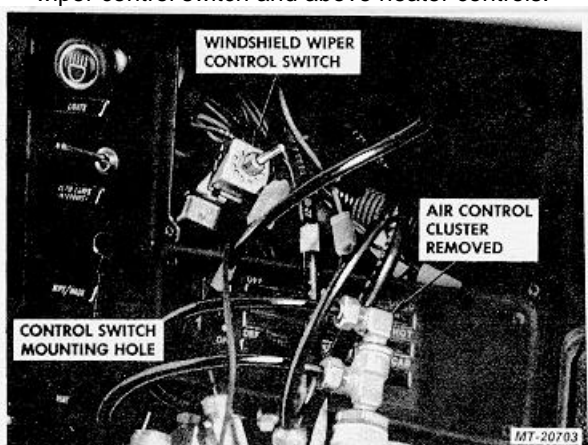

Fig. 7 Removing Wiper Switch from Instrument Panel
3. Remove mounting nut from switch shaft and demount switch assembly from instrument panel (Fig. 7).